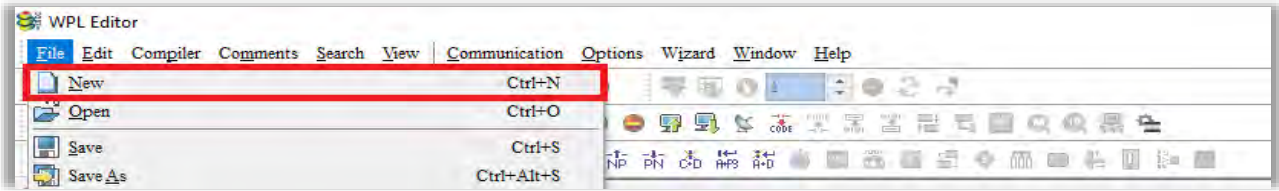

Figure 16-5
NOTE: You can also find “New file (N) (Ctrl+N)” in the "File (F)", as shown in Figure 16-5 below.